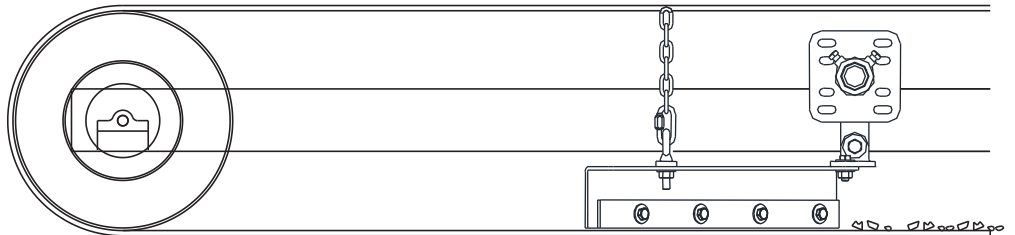

Fig 5- Worn Rubber
- Step 2b.** In some instances a safety chain has been supplied and should be installed as shown in Fig. 5 shown above. The length of the chain should be adjusted so that the front end of the plow cannot contact the surface of the belt which is roughly 1/4" (6.35 mm) away.